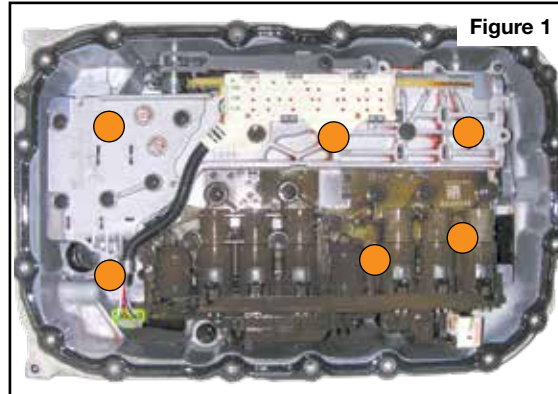

Figure 1
- Remove six control solenoid valve assembly-to-case Torx Plus® bolts (Figure 1 & 2). A special socket (GM Tool Part No. DT-48285) is available (Figure 3), or a standard 11/32" six-point drive socket will work with care.